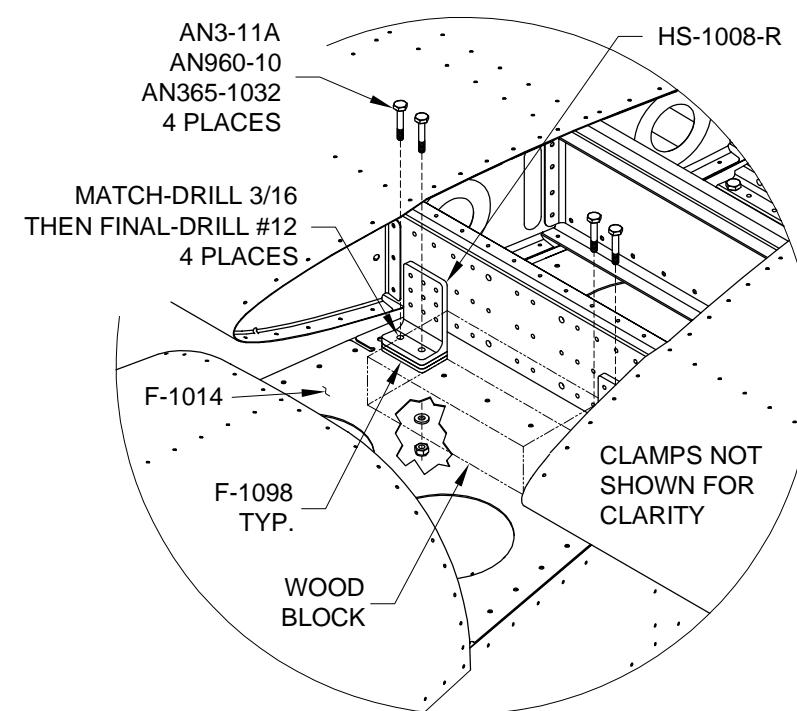

FIGURE 3: MATCH-DRILL SPACERS AND TAILCONE
Step 3: Match-Drill #12 the F-1098 Shims, F-1014 Aft Deck, F-1010B Spacer and F-1010A Angle using the four holes in the HS-1008 Horizontal Stabilizer Front Spar Attach Brackets as drill guides as shown in Figure 3. It may be necessary to use at least a 6 inch long extended drill bit. The F-1010B Spacer and F-1010A Angle are not shown. Remove the horizontal stabilizer. Deburr and prime if/as desired. Bolt the horizontal stabilizer to the tailcone using the hardware shown in Figure 3 and Page 4, Figure 4.